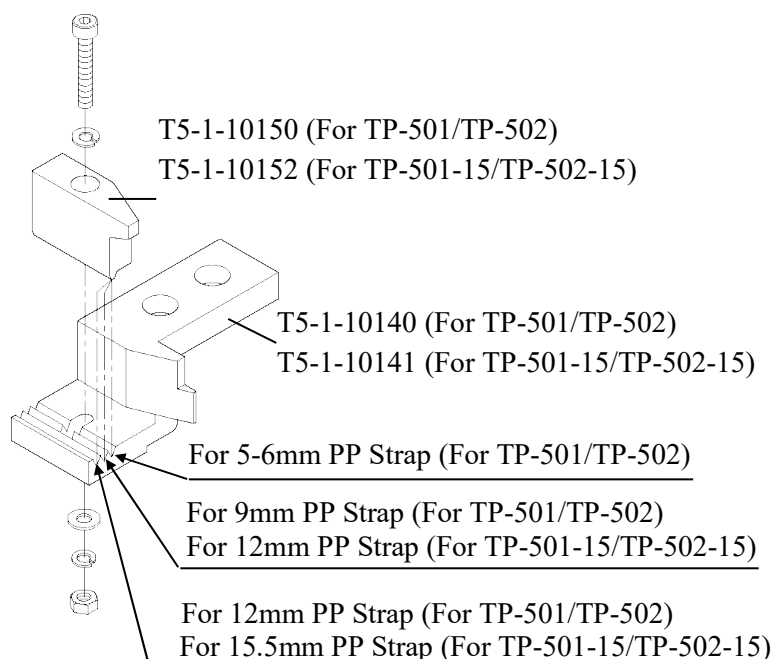

Fig.5.
2. Adjust the position of Strap Guide B (T5-1-10150 / T5-1-10152) according to the strap width. (refer to fig. 5)